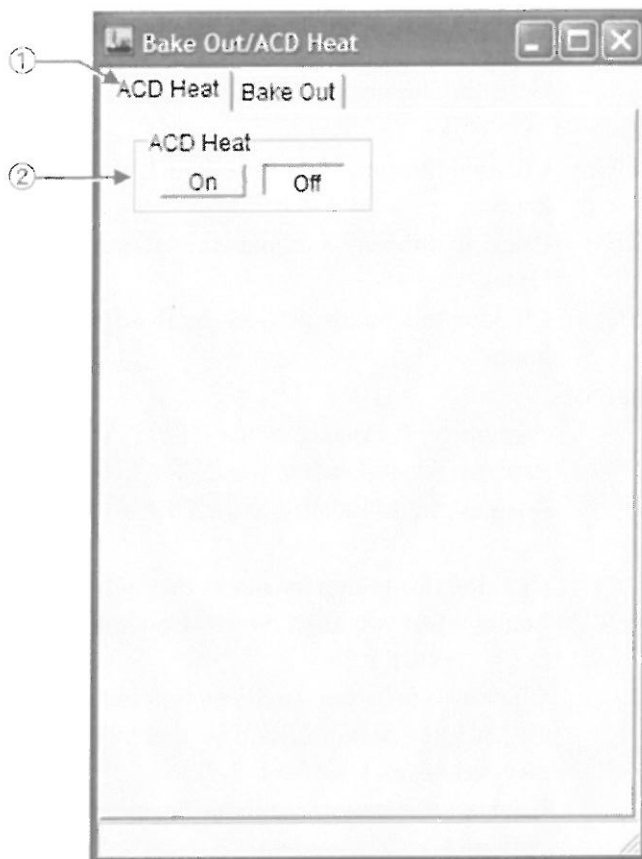
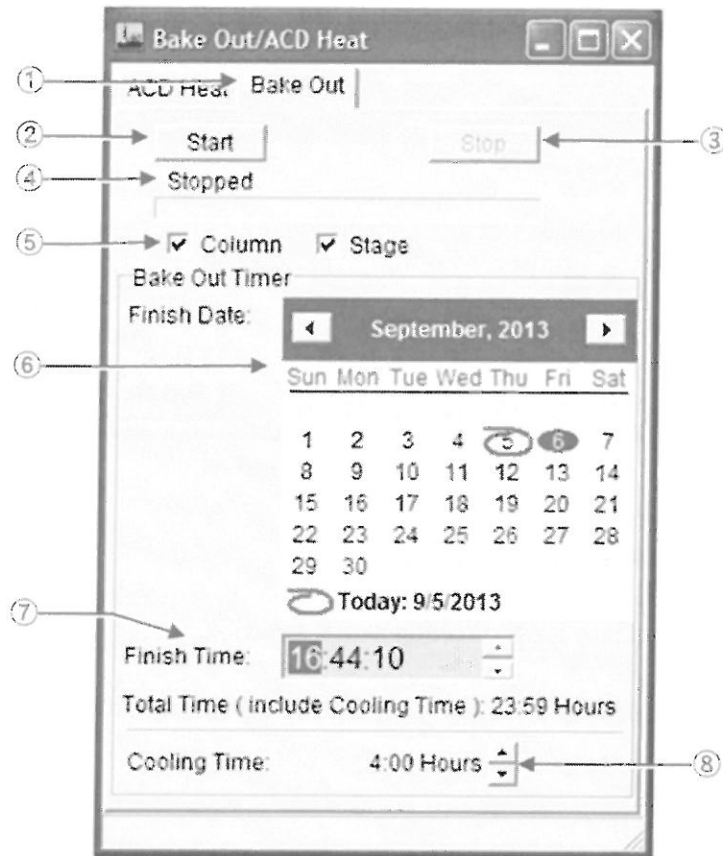

Fig. 4.62 Bake Out/ACD (ACD Heat) window
Fig. 4.63 Bake Out/ACD (Bake Out) window
PC window TEM Controller menu bar: Select from Maintenance (Fig. 4.20-①) to display (Fig. 4.62, Fig. 4.63).